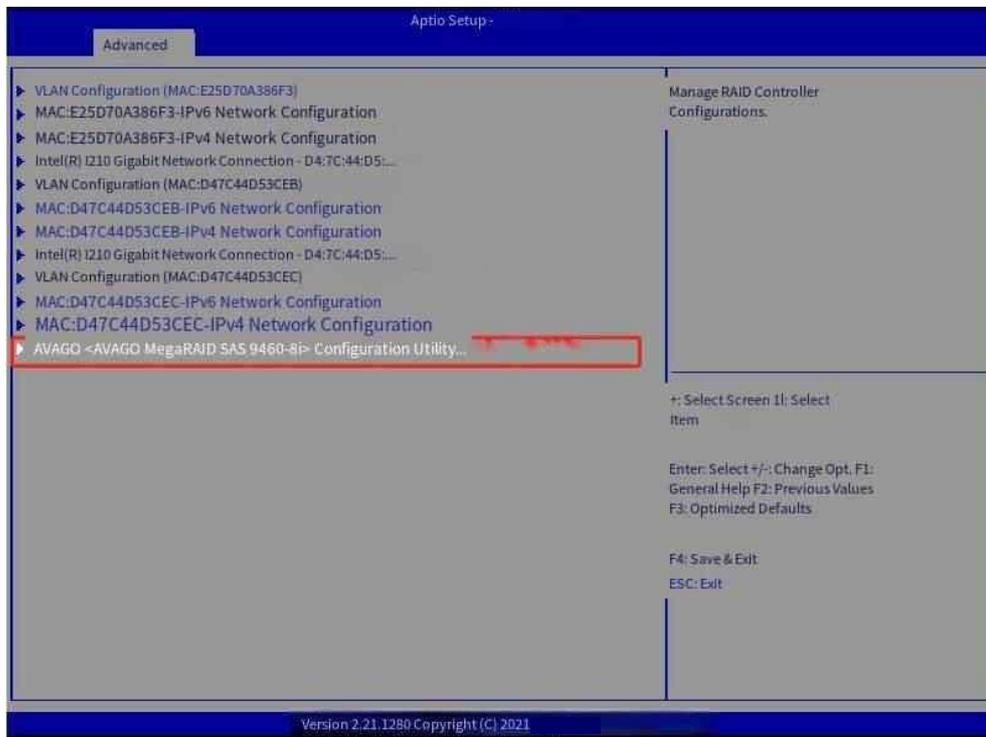
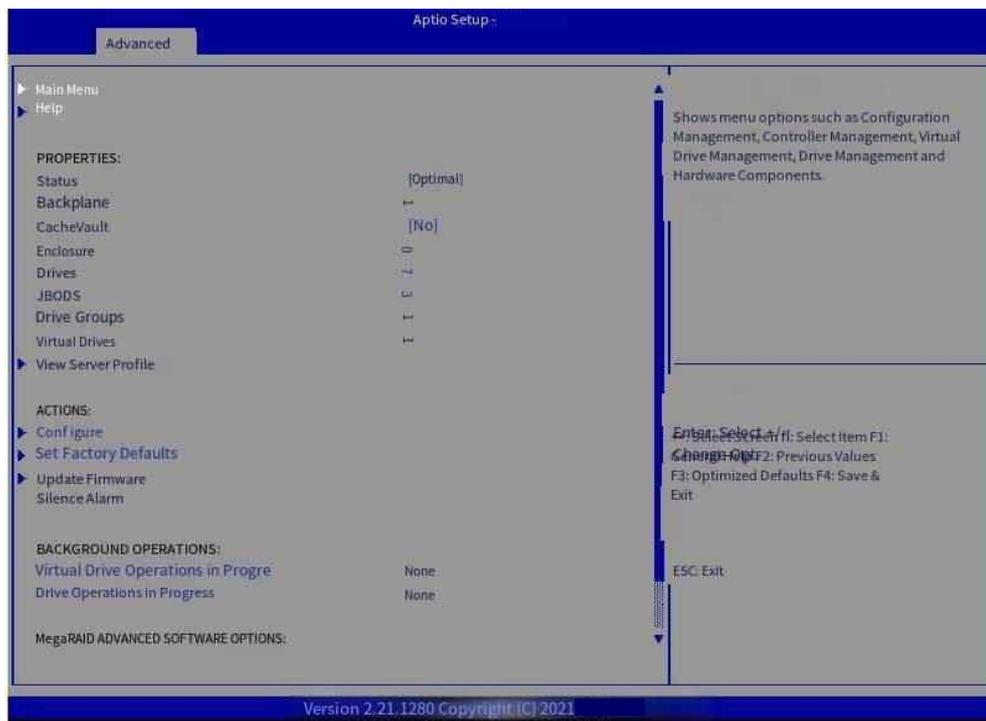

Figure 7-2 Information about the RAID card in Dynamic UEFI Opmom
Figure 7-3 RAID card management page
Step 2: Select Advanced->Dynamic UEFI Oprom Select AVAGO<AVAGO MegaRAID SAS 9460-8i> Configuration Utility (Figure 7-2), Press enter to go to the RAID card management screen (Figure 7-3).